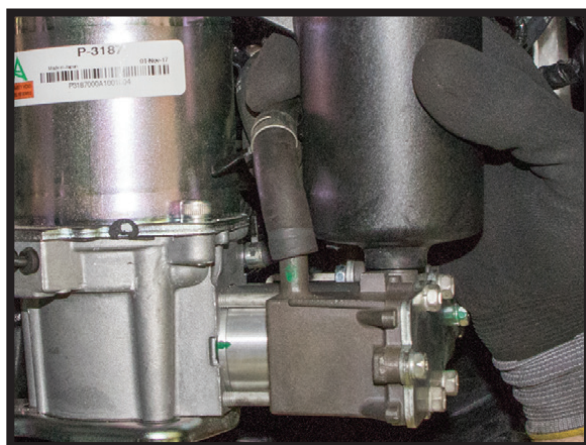

FIGURE 27
5. REINSTALL THE RUBBER HOSE ONTO THE MANIFOLD. (FIGURE 27)